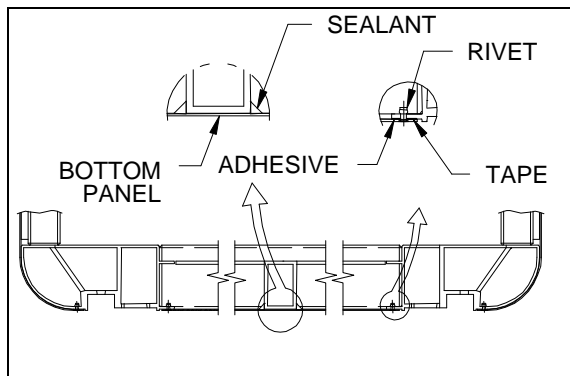
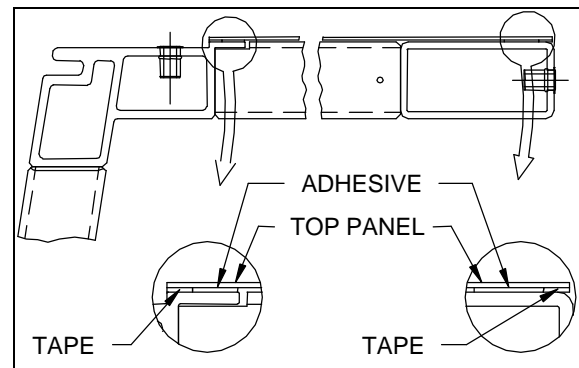

FIGURE 48 : TOP AND BOTTOM PANEL INSTALLATION
FIGURE 49 : TOP PANEL INSTALLATION
2. Remove panel rivets with a 1/8" drill bit, a hammer and a punch (figure 48).
- See figure 48 and figure 49 for both bottom and top panel adhesive, sealant and tape position.